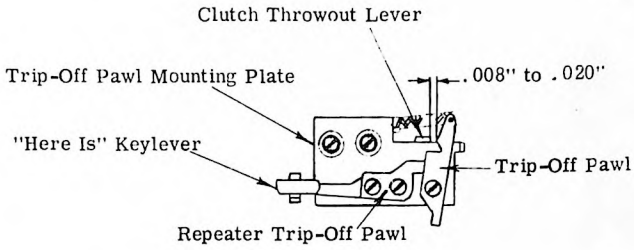

Figure 4
- 1.12      Universal Bar Position (Figure 4)
- 2.7      Repeater Trip-Off Lever (Figure 4)